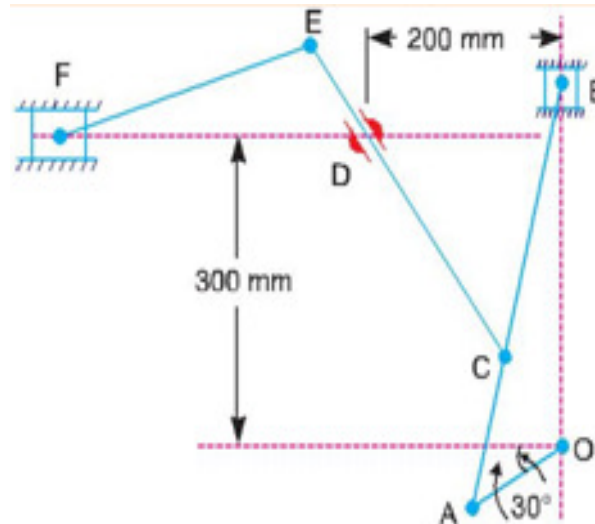

Fig.1
4. In a mechanism shown in Fig.1, the crank OA is 100 mm long and rotates clockwise about O at 120 r.p.m. The connecting rod AB is 400 mm long. (16M)